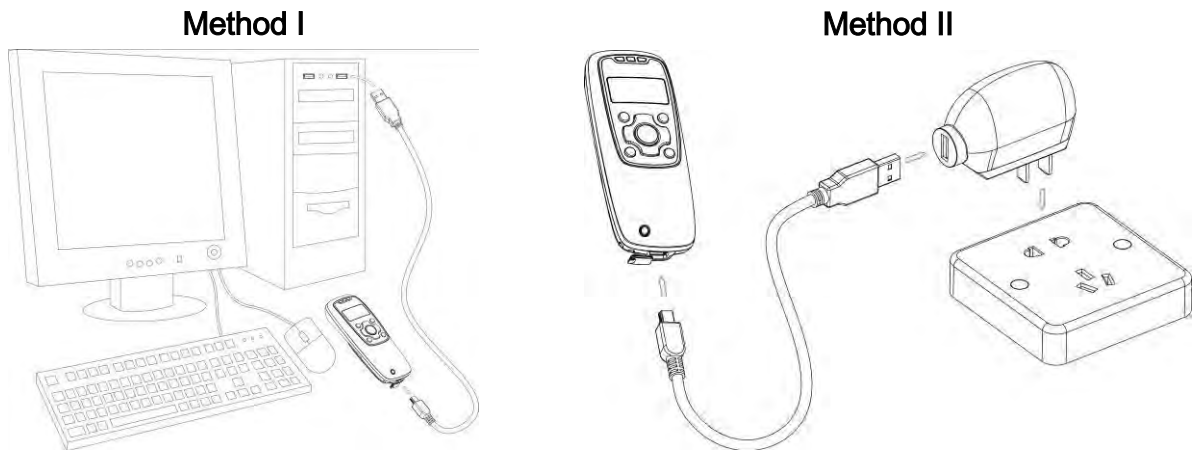

Figure 3-1 Diagram of charging battery
1. **Please charge the battery before the first time of use.** There are two methods of charging battery as demonstrated in Figure 3-1. The charging indicator (red LED) on the scanner is turned on when the charging is in process. When the charging process completes, the red LED is turned off.